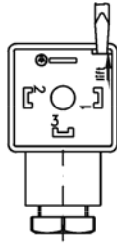

Fig. 7
- ⇒ Use a screwdriver or similar tool to press out the core (pos. 8) of the junction box (Fig. 7).